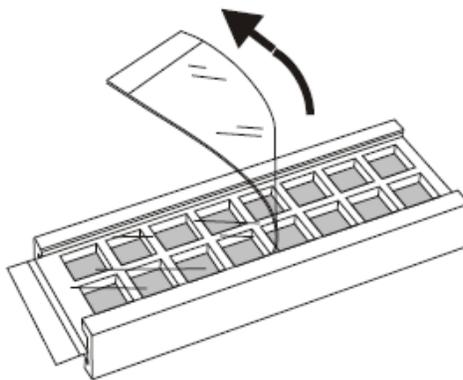

Figure 9
9. After incubation, the seal strip may be removed by peeling it off as shown in Figure 9. The module can be re-sealed using a fresh seal strip. Ensure that the well surface is dry before seal strip application.